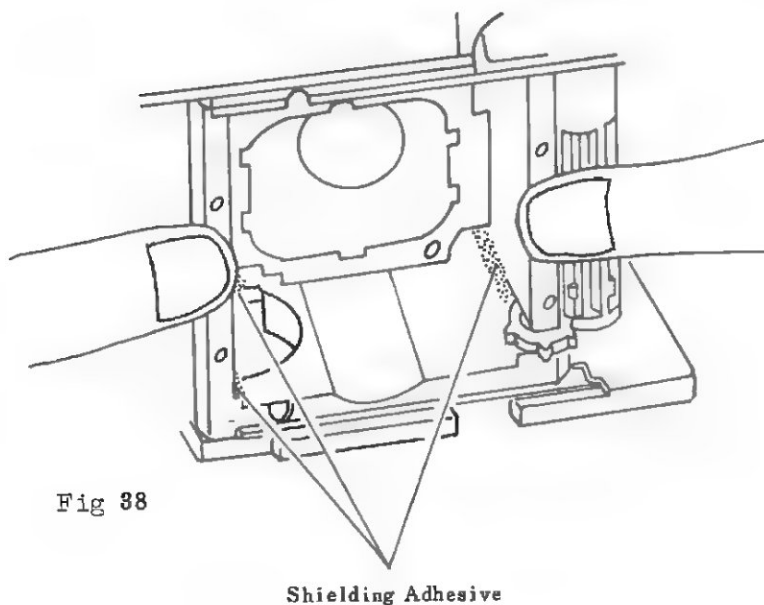

Fig 38
(3) Shutter Ass'y with Front Cover;
b) Remove the Shielding adhesive from around the corner of camera body as shown in (Fig 38)
c) While pushing the Shutter Ass'y forward slowly from camera body as shown in (Fig 38)